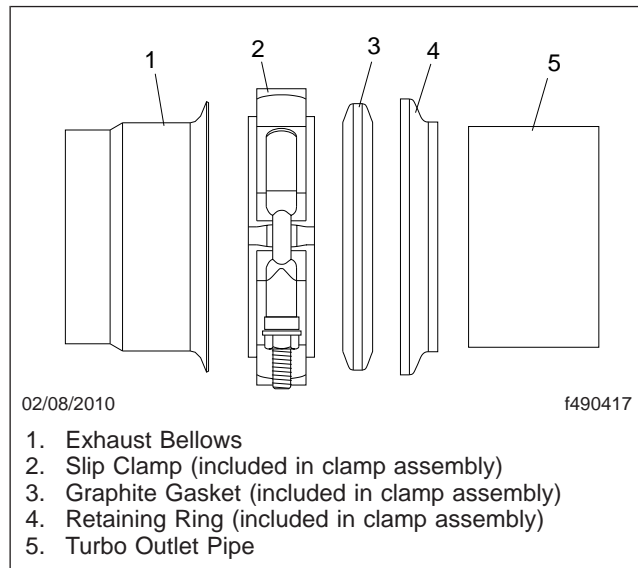

Fig. 7, Forward Facing Slip Clamp Installation
10. Install the slip clamp assembly, with the retaining ring and graphite gasket ring, onto the turbo outlet pipe. See Fig. 7 for proper installation.